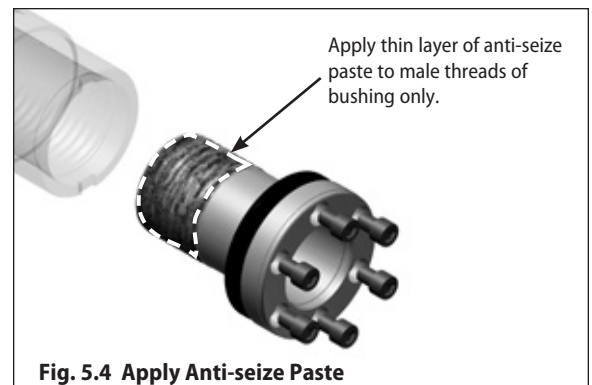

Fig. 5.4 Apply Anti-seize Paste
Step 4 – Apply a thin layer of anti-seize paste **to the male threads of the Taper-Grip® Bushing only** (see Fig.5.4). Ensure that anti-seize paste does not enter the Taper-Grip® Bushing bore. **Caution: Do not apply anti-seize paste to the female threads in the hub.**